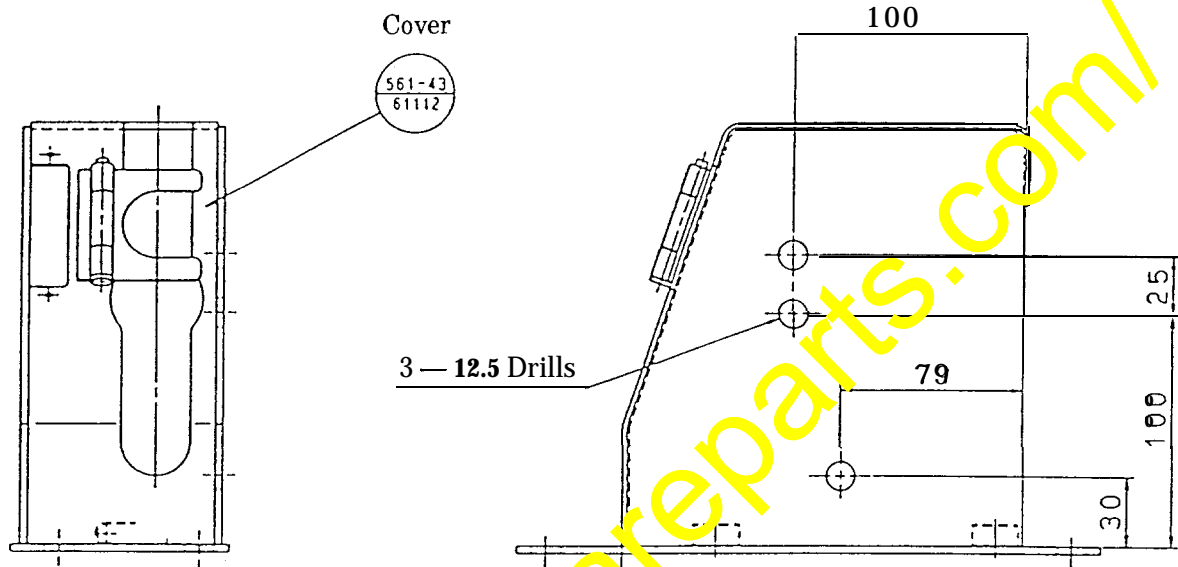

Fig 1 Reworking the dump control cover
3.1 Reworking of parts (See Fig. 1.)